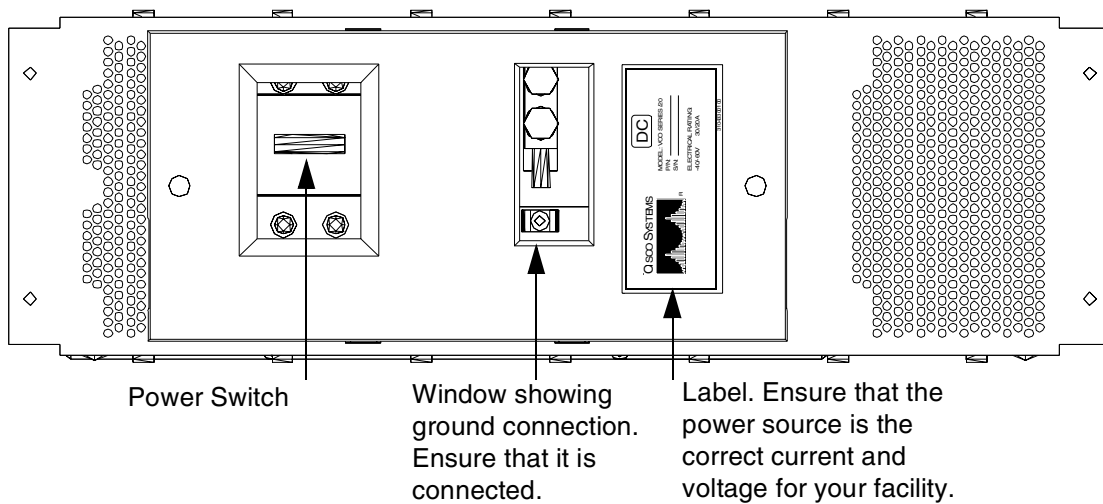
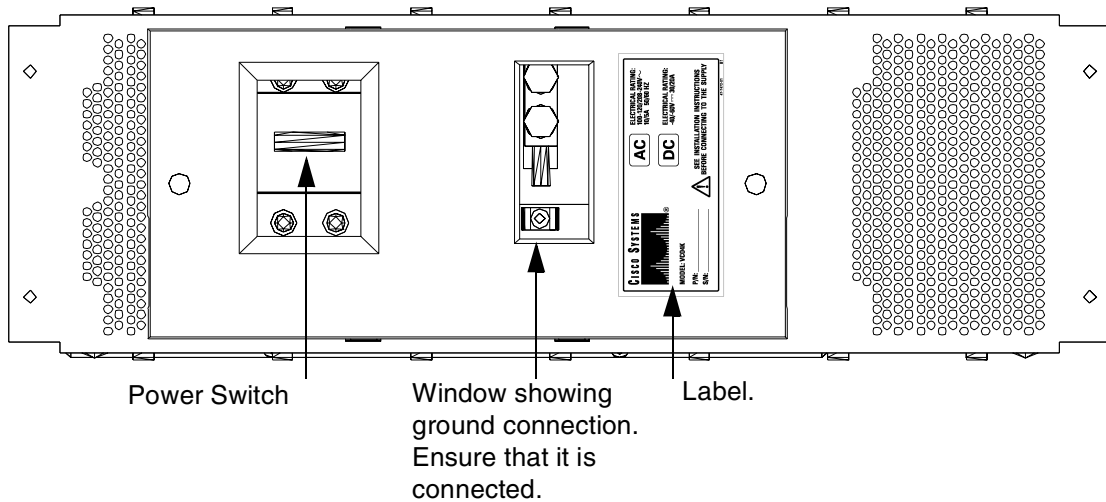

Figure 3: Power Entry Module With Input Power Type Specified
Figure 4: Power Entry Module Without Input Power Type Specified
The power entry module (PEM) serves as a mechanical connection point for site power. It includes the following (refer to *Figure 3*):
*NOTE: The power entry module accepts either a single-line AC feed, a dual-line DC feed, or a single-line DC feed. The factory-installed power supply modules are compatible with the power entry module configuration. The label on the power entry module will either specify your system's type of input power (see *Figure 3*) or list both possibilities (see *Figure 4*). Always verify the input power type by looking at the front of each power supply module. Ensure that the power source is the correct current and voltage for your facility before cabling the power source.*